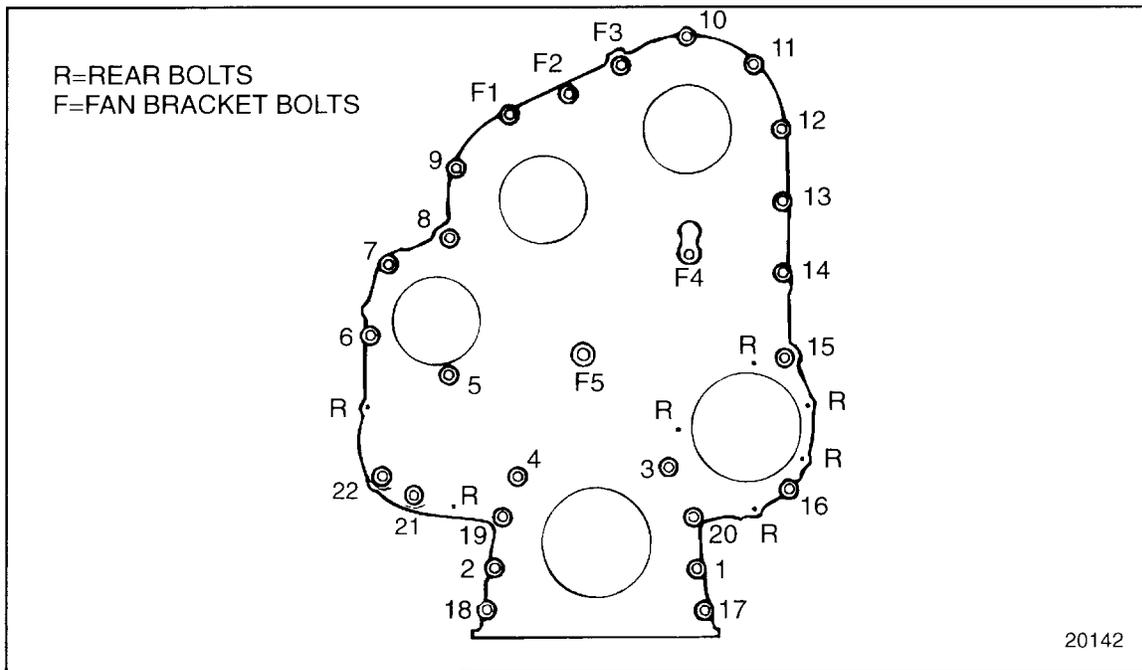

Figure 4 Gear Case Cover Mounting Bolt Locations
12. To prevent sags and low points, secure the vent line with the hose clip. Remove the gear case cover mounting bolt on the right side of the lifter bracket (bolt No. 12 – see Figure 4). Attach the hose clip to the bolt, reinstall, and torque the bolt to 58 –73 N·m (43 – 54 lb·ft).